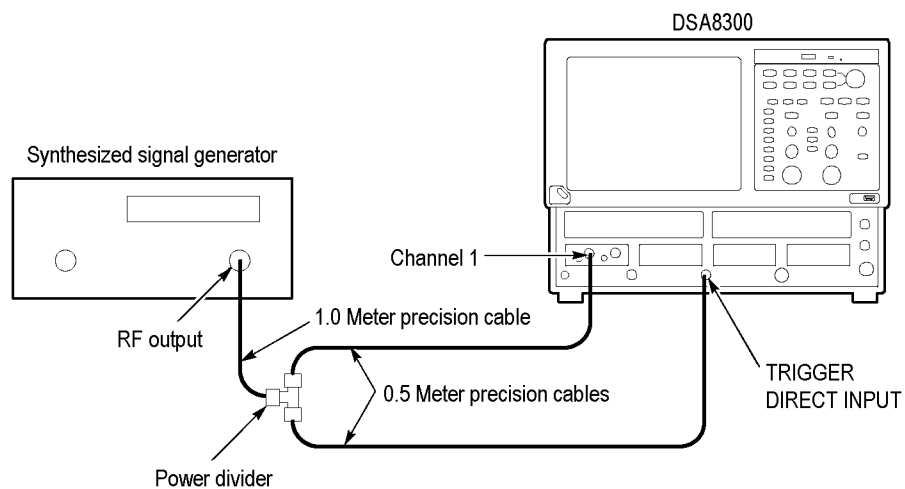

Figure 7: External direct trigger test setup
2. Connect the test equipment (See Figure 7.)